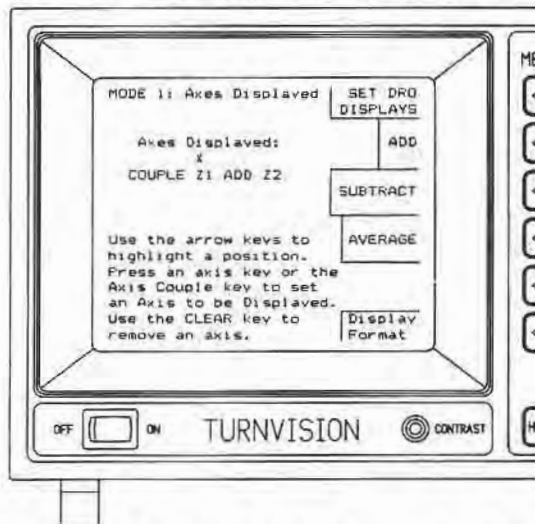

Figure 26. Multiple Scale Coupling (MSC).
- 6) Select the coupling function (ADD, SUBTRACT, AVERAGE), by pressing the corresponding menu key (Figure 26).